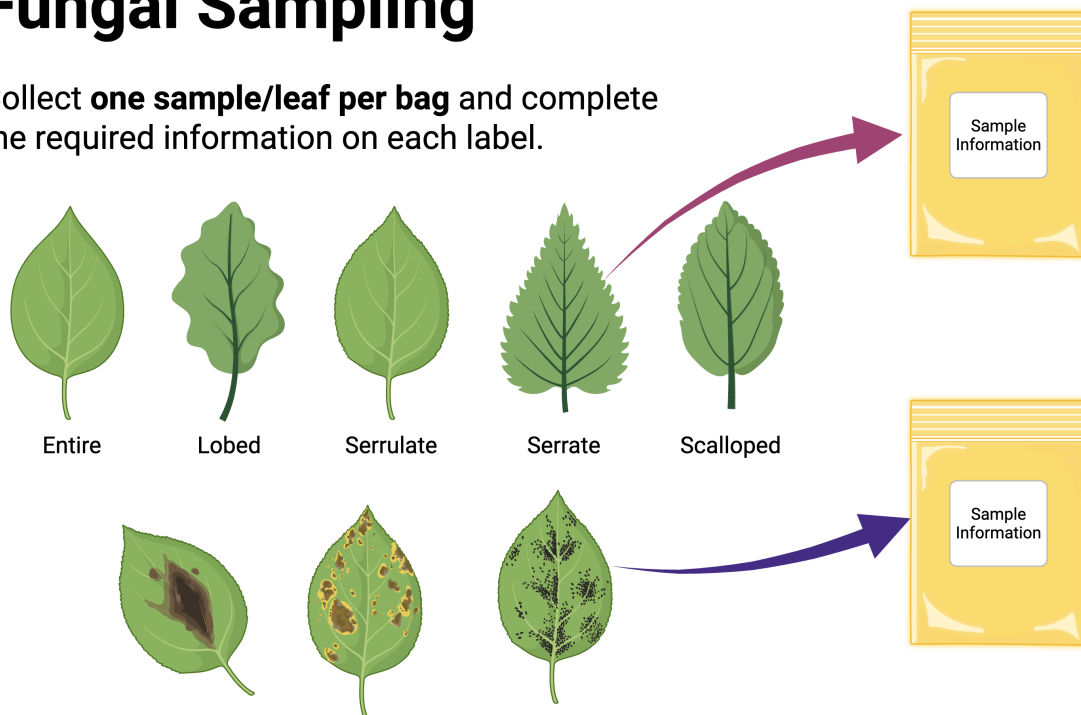

Figure 2: Fungal Sampling. Collect one sample/leaf per bag and complete the required information on each label. Figure created with BioRender.com.
3. As indicated in Figure 2, place the label in a paper bag. Record your information on the label including the unique ID number, date, location, and any other relevant information. This will be important for tracking your samples and linking them to your iNaturalist observation.
2. Label a PDA Petri dish with the sample number and date for each isolate (described in Module 1.1 - Metadata). Always label along the bottom edge. This ensures the label stays with the fungus, even if the top lid falls off. Label the edge of the plate because you don't want to obscure light transmission through the plate. Also, mark lines on the bottom of the plate as shown in Figure 2 to record the growth rate. Be sure to transfer only one fungal isolate to each PDA petri dish.